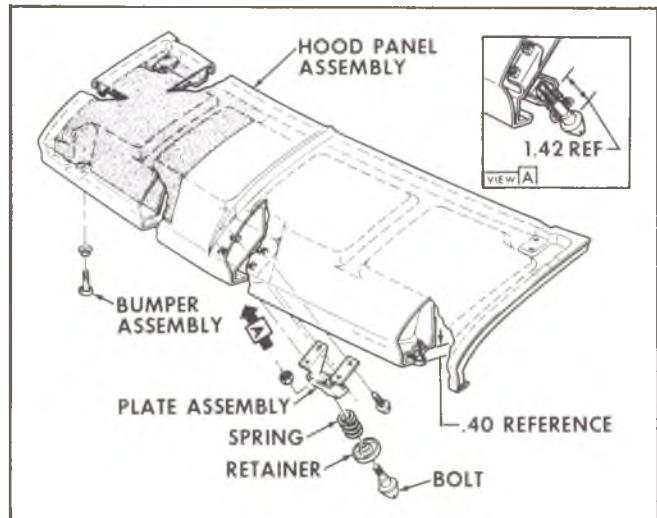

Fig. 7—Hood, Bumpers and Latch—G Series
1. Adjust lock bolt as shown in Figure 7.
Hood Bumper (Fig. 7)
Hood Assembly (Fig. 7)**Removal**